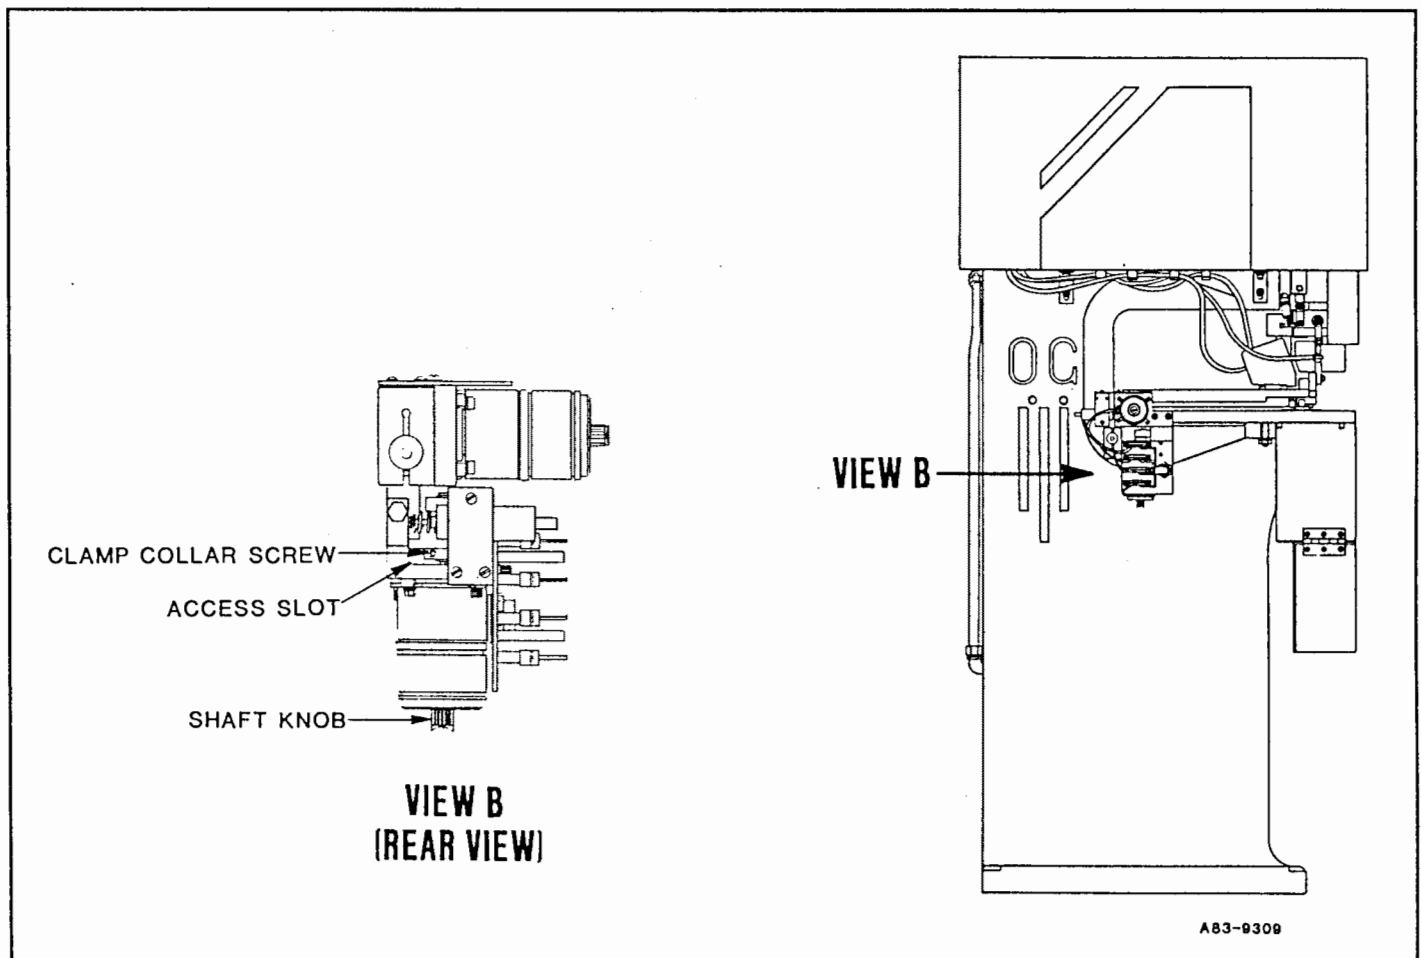

Figure 8.10 D
2. Remove left-right servo motor mounting screws (511), lock washers (513), and clamps (514) with 9/64" hex wrench.
3. Pull left-right servo motor (515) off of mounting block (519).
4. Place new left-right motor on mounting block (519) and secure in place with clamps (514), lock washers (513), and screws (511).
6. Push board #4 into its socket (see Figure 8.10 A).
7. Reattach sponge tape (494) and board retaining bar (493) with board retaining bar screws (491) and lock washers (492).